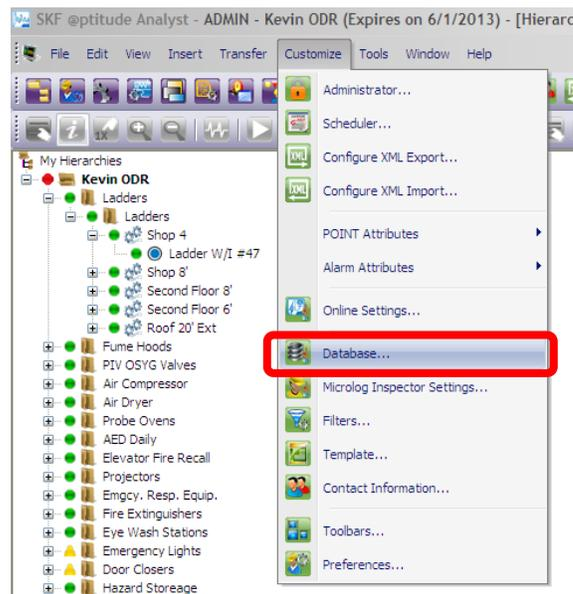

Figure 1. Customize > Database menu
1. In @ptitude Analyst, go to **Customize > Database**. [Figure 1]